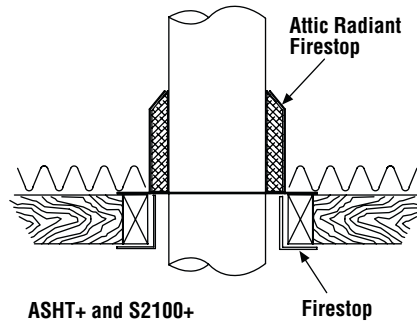

Figure 20A
2. From below, install a firestop in each ceiling/floor separation through which the chimney will pass. At the attic level, install an attic radiation shield from above (see **Figures 20A and 20B**).
3. Use another elbow to turn the chimney vertically. Secure the elbow, using three (3) 1/2" (12mm) screws (provided with the elbow).
5. From below, install a radiation shield (**Figure 20A**).